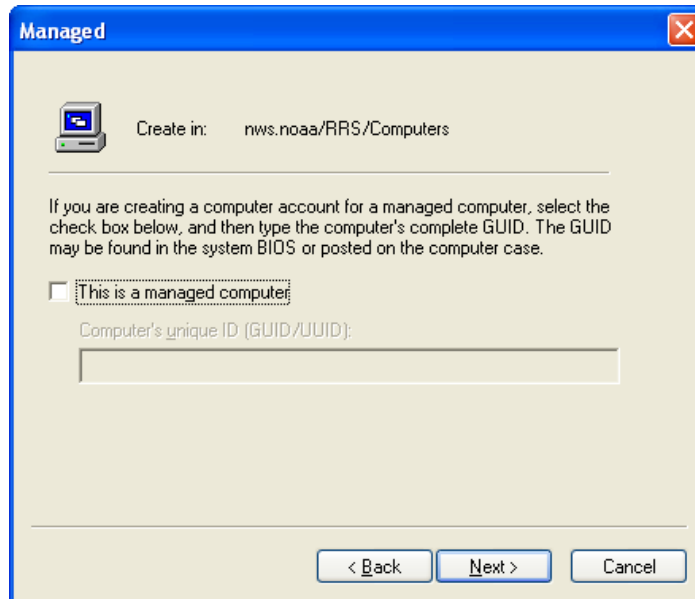

Figure B-6: Managed Window
8. Click **Next** to open the *Managed* window (Figure B-6).